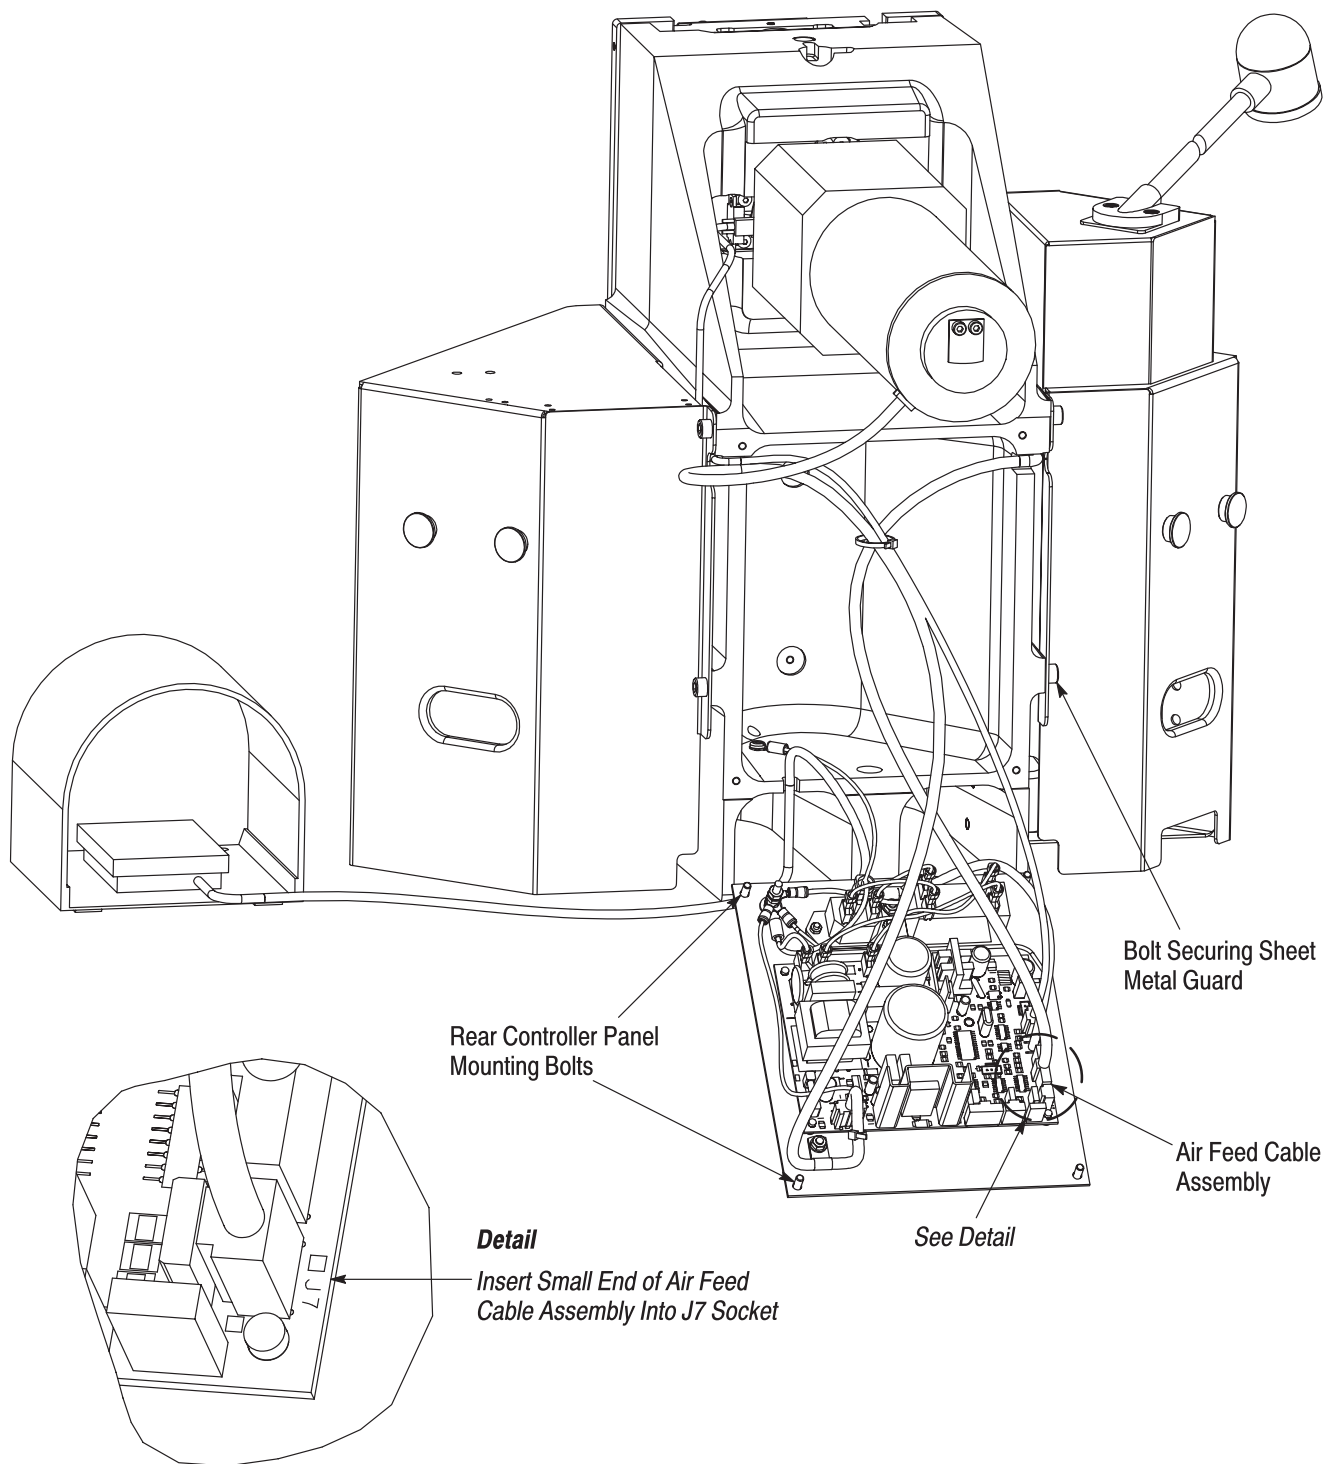
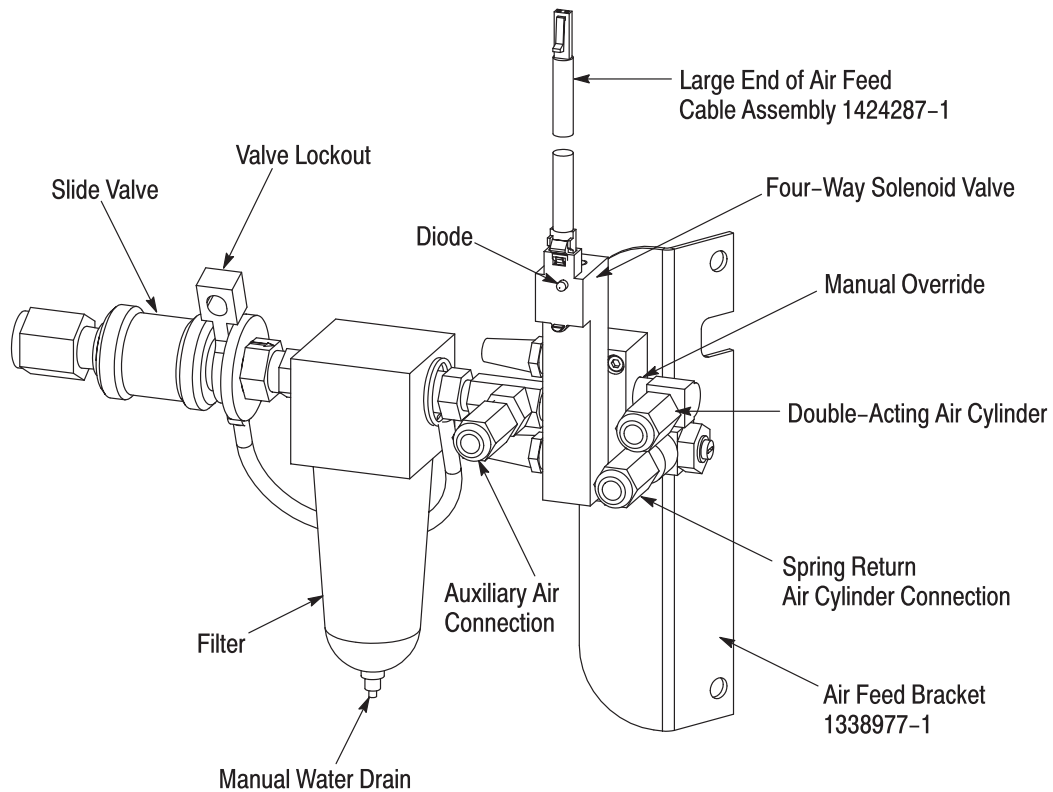

Figure 14
Figure 16
1. Remove the four mounting bolts securing the rear controller panel to the frame. Refer to Figure 14.
3. Insert the small end of the air feed cable assembly (see Customer Drawing 1424266) into the J7 socket. See Detail in Figure 14.
6. Install Air Feed Bracket 1338977-1 to the frame (see Figure 16) using the two bolts securing the sheet metal guard (Figure 14).
9. Connect the air lines to the applicable ports as shown in Figure 16.
10. Turn the air “on” by moving the slide valve **toward** the filter. See Figure 16.
11. Lock the air in the “off” position. Turn the air “off” and clamp the valve lockout in position as shown in Figure 16.